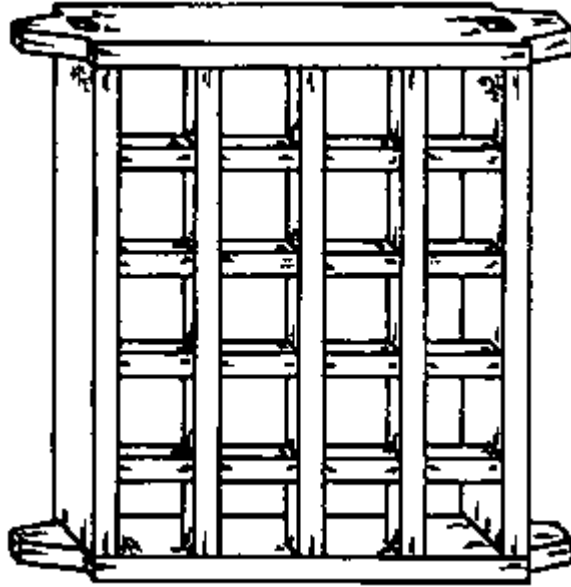

Fig. 4
- A relatively inexpensive and reliable burglar proofing is the wooden type. During assembly of the frame, this burglar proofing is installed into mortices made in the head, cill and posts of the frame. The separate pieces are fitted together with halving joints in a crosswise pattern (Fig. 4).